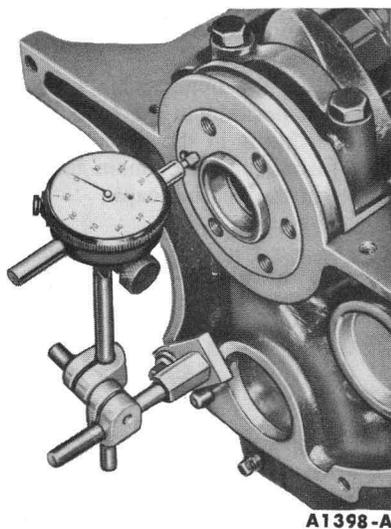

FIG. 81—Crankshaft End Play
17. Install a dial indicator so that the contact point rests against the crankshaft flange and the indicator axis is parallel to the crankshaft axis (Fig. 81).